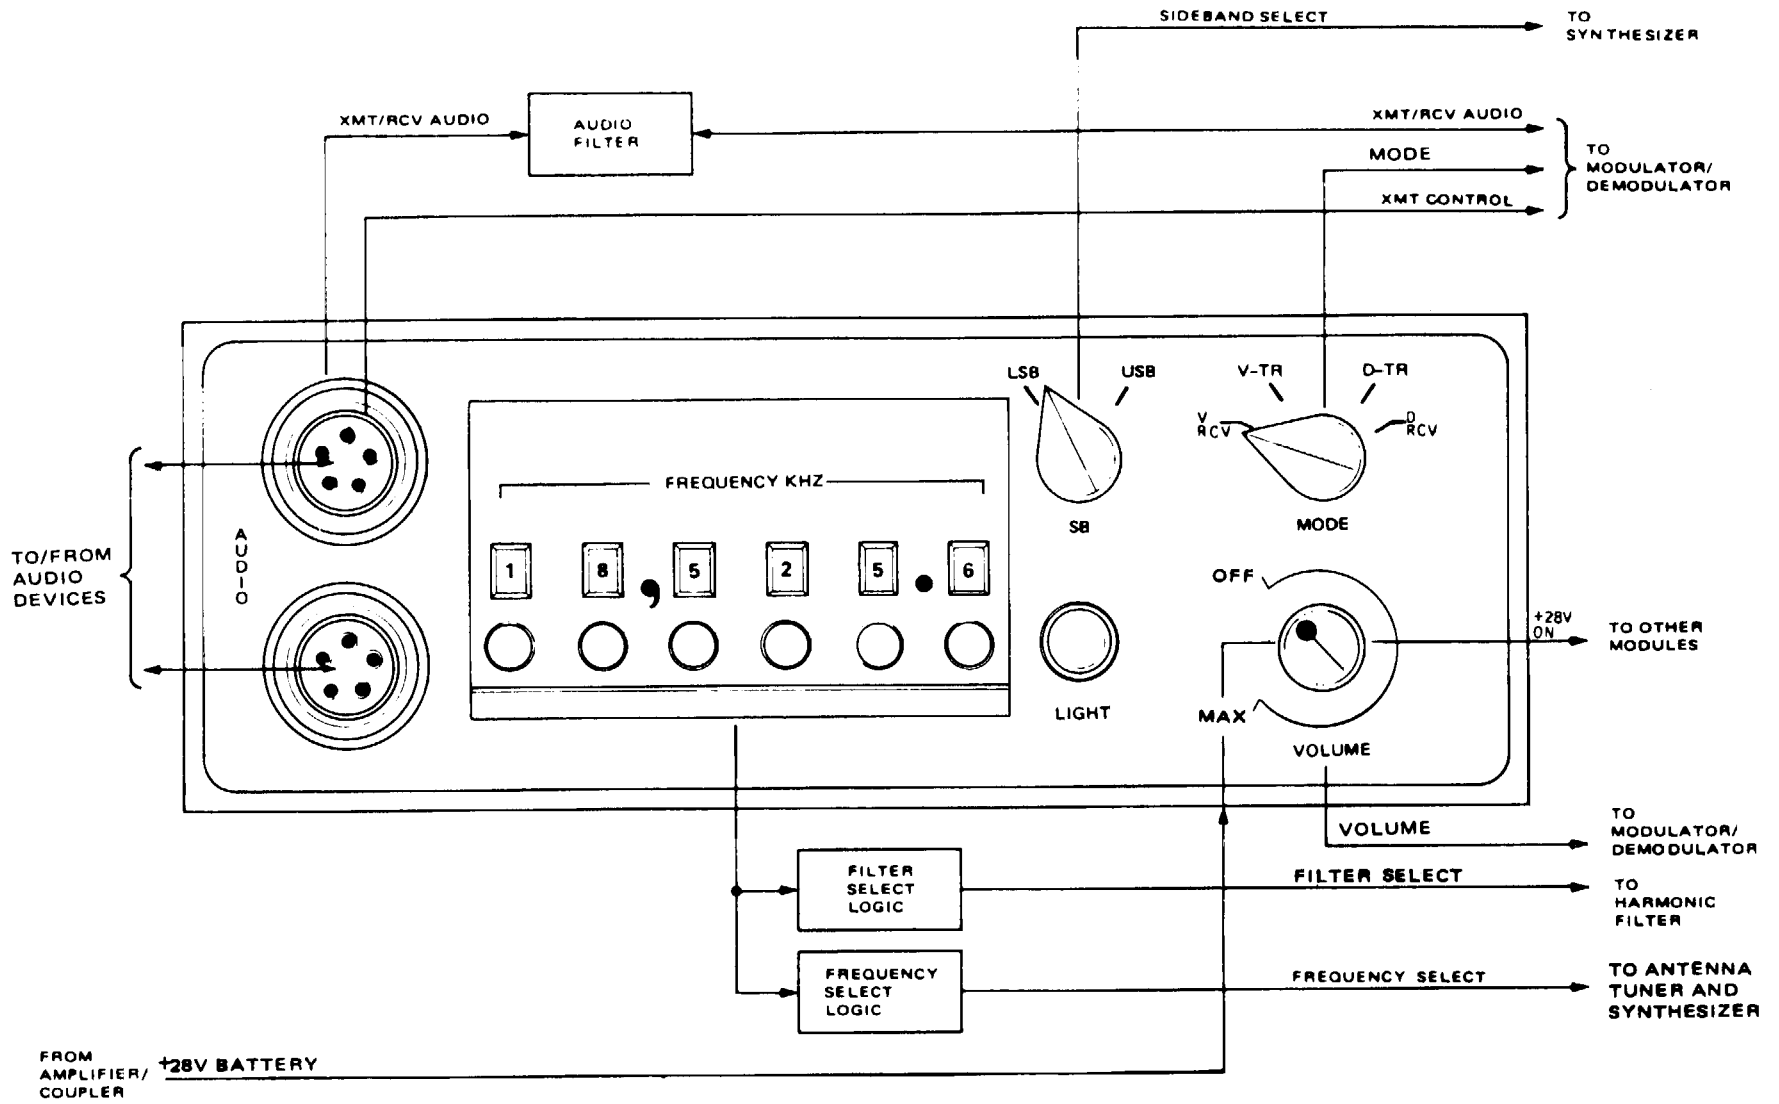

Figure 3-3. Control Panel Pictorial Block Diagram
**3-19. CONTROL PANEL (Figure 3-3).** The control panel is a removable module which contains all of the operational controls, and the audio interface connectors and filters for the radio set. The operational controls and audio filtering are discussed below.